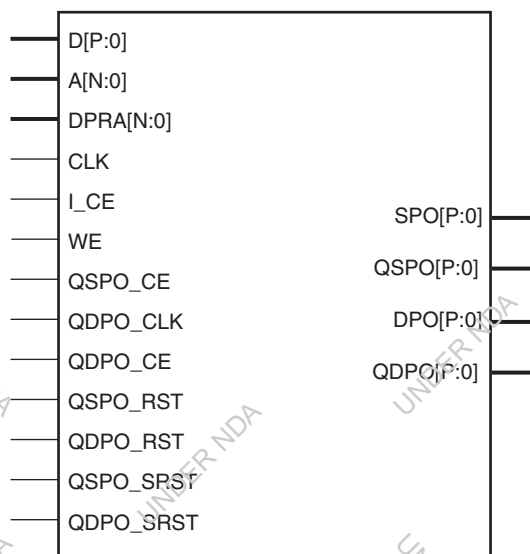
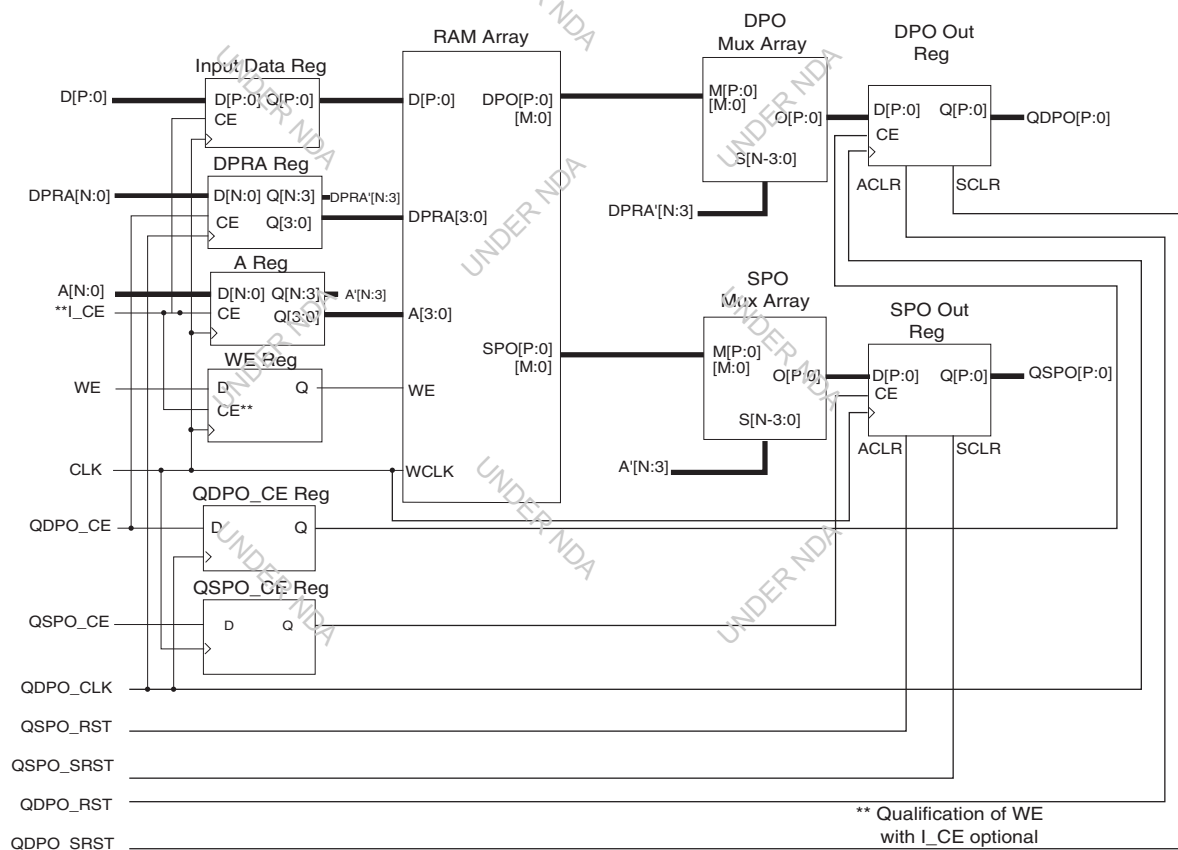

Figure 5: Dual-Port RAM Schematic Symbol
Figure 6: Dual-Port RAM Module Schematic
Writes to the distributed dual-port RAM are synchronous to the clock (CLK). However, read operations from the distributed dual-port RAM can be asynchronous or synchronous with respect to either of the two clocks (CLK or QDPO\_CLK). Figure 5 illustrates the dual-port RAM schematic symbol, showing the relevant ports. Figure 6 shows the internal implementation of the distributed dual-port RAM. If a pipeline register is added to a registered core (not illustrated), the additional register is re-timed into the SPO MUX array and DPO MUX array.
- **Dual-Port RAM.** Figure 6 illustrates a schematic of the structure of the dual-port RAM modules. The address and data registers are optional (controlled by the setting of the Input Options parameter). The dual-port read address register is optional (controlled by the setting of the Dual-Port Address parameter). Output registers for both output ports are also optional (controlled by the setting of the Output Options parameter). When registered outputs are selected, the two output ports can be clocked by the same or different clock signals and can have the same or different clock enables (based on the settings selected for the Common Output Clock and Common Output CE parameters). All resets and clock enables are optional. Note that the clock CLK is always required, because writes to the RAM are synchronous to that clock.